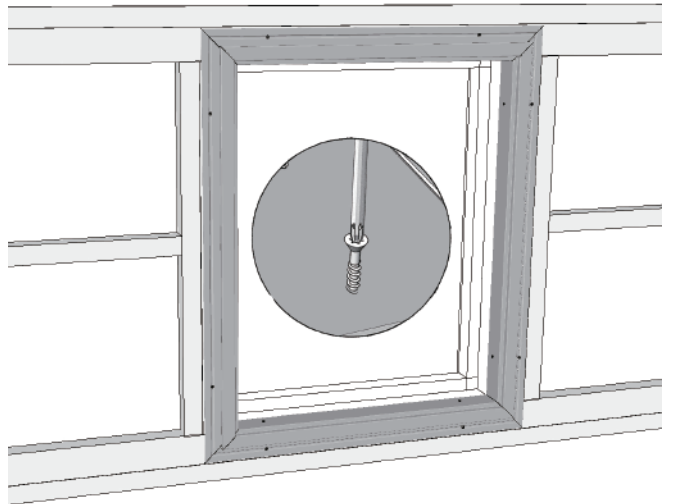

Fig24-5
5. Install the board cut in the previous step, pre-drilled holes and then fixed with open nails. As shown in Figure 24-5: